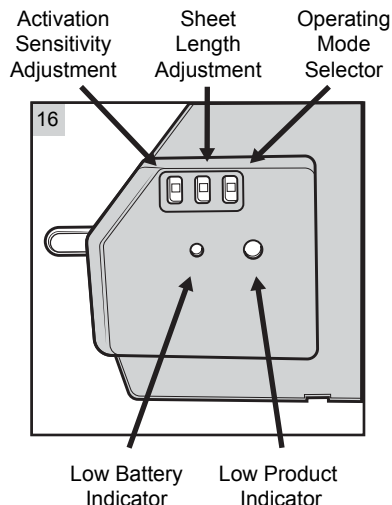

Figure 17
E. Important Sticker (Figure 17)